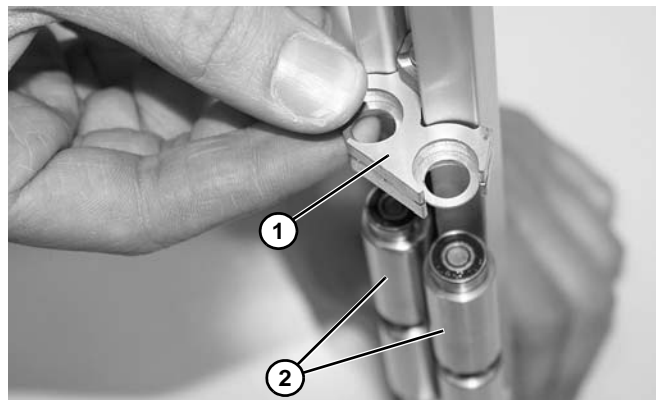

Figure 102
8. Remove bearing carrier (if installed) (**Figure 102, item 1**) and spindles (**Figure 102, item 2**).